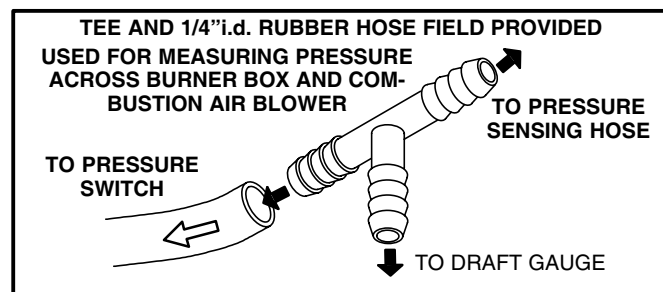

FIGURE 20
- 2 - Disconnect hose from left side of pressure switch and install Tee as shown in figure 20.
- 7 - Disconnect hose from right side of pressure switch and install Tee as shown in figure 20.